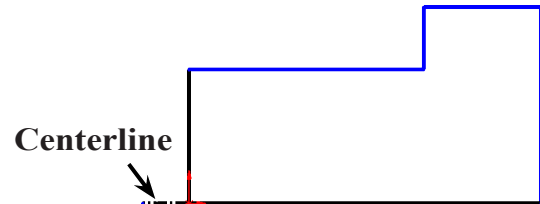

Fig. 3
Step 6. Sketch a **short horizontal centerline out from Origin** , **Fig. 3**.